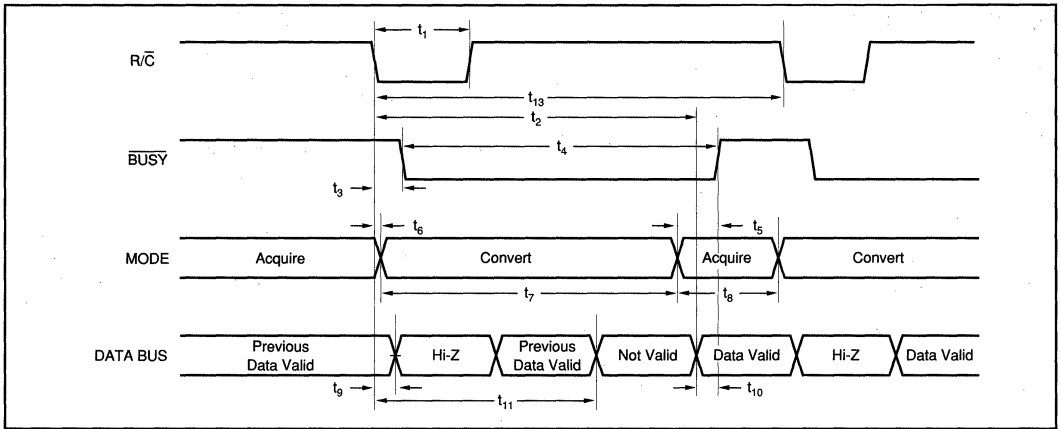

FIGURE 3. Conversion Timing with Outputs Enabled after Conversion (\overline{CS} Tied LOW.)
Table II for a summary of \overline{CS} , R/\bar{C} , and \overline{BUSY} states and Figures 3 through 5 for timing diagrams.
NOTE: (1) See Figures 3 and 4 for constraints on data valid from conversion "n-1".
After conversion 'n' is completed and the output registers have been updated, \overline{BUSY} (pin 26) will go HIGH. Valid data from conversion 'n' will be available on D15-D0 (pin 6-13 and 15-22). \overline{BUSY} going HIGH can be used to latch the data. Refer to Table IV and Figures 3 and 5 for timing specifications.
After conversion 'n' has been initiated, valid data from conversion 'n-1' can be read and will be valid up to $7\mu s$ after the start of conversion 'n'. Do not attempt to read data from $7\mu s$ after the start of conversion 'n' until \overline{BUSY} (pin 26) goes HIGH; this may result in reading invalid data. Refer to Table IV and Figures 3 and 5 for timing specifications.
The number of control lines can be reduced by tying \overline{CS} LOW while using R/\overline{C} to initiate conversions and activate the output mode of the converter. See Figure 3.